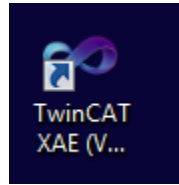

Figure 17. TwinCAT3 XAE Desktop Icon
- (b) Desktop icon is shown in Figure 17.